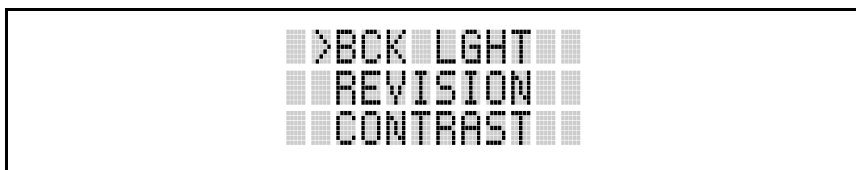

Figure 10: Menu Display
2. Upon entering the menu selection mode, Menu options will appear on the display (see Figure 10).